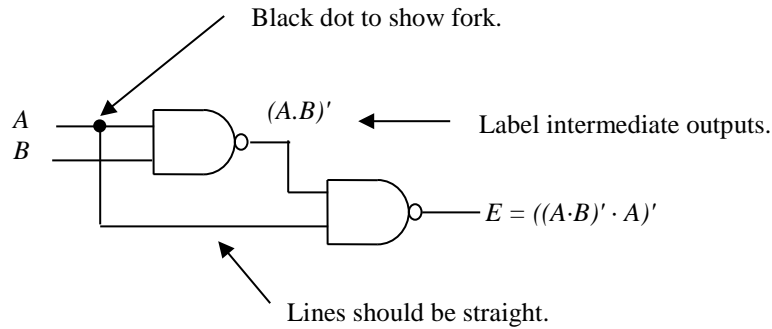

Figure 8.
- For logic diagrams, all lines should be straight. All inputs, outputs and intermediate outputs should be labeled, as shown in Figure 8. Use black dot to indicate a fork.